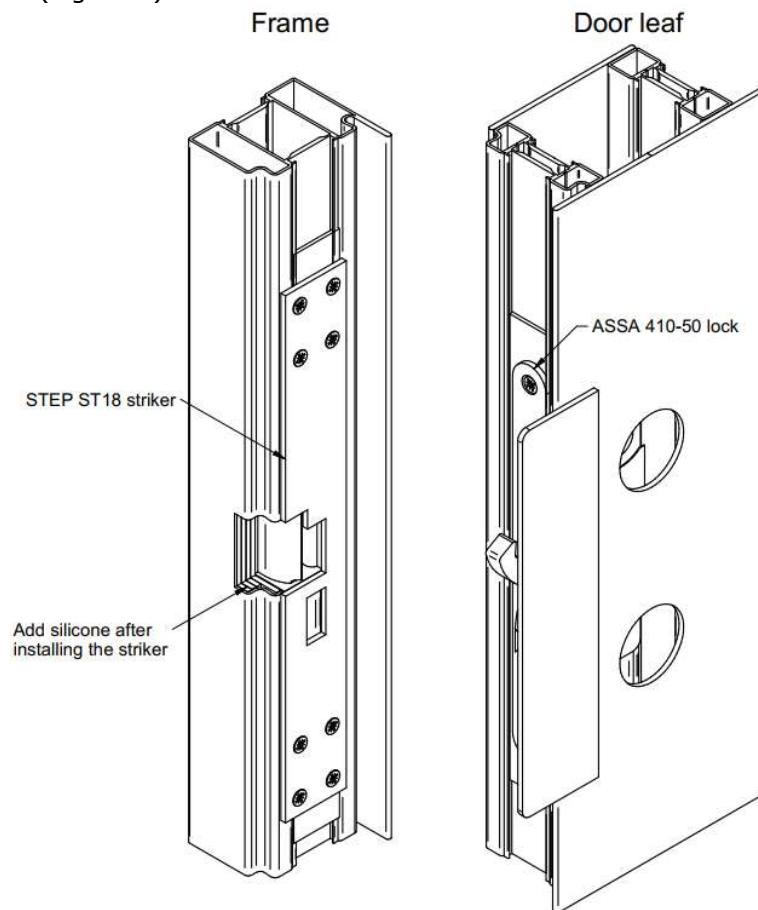

Figure 5 Silicone for the STEP ST18 striker
15. When installing the striker Stendals EI AB STEP ST18, use silicone to fill the gaps between frame and striker (Figure 5).